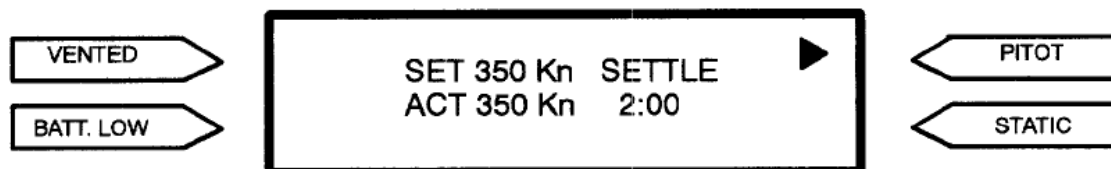

Figure 14 Settling Period
- R. When Set pressure has been achieved, the PSLT enters its settling mode (either the default time of 2 minutes or the time set under Main Menu 3). The screen displays the caption 'SETTLE' and also the remaining time (*Figure 14*).